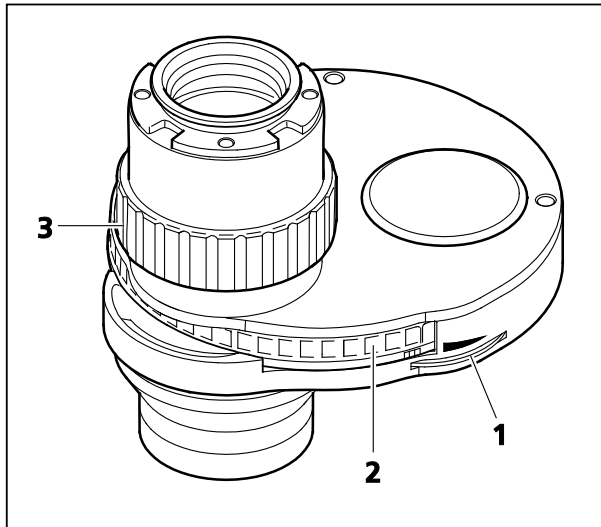

Fig. 2-19 LD Condenser 0.55 for
- Condenser with an adjustable aperture diaphragm (Fig. 2-19/1) for the bright field position (position 1 of the modulator disk; the aperture diaphragm is completely open for all the other positions of the modulator disk)
- Five-position modulator disk (Fig. 2-19/2) and height adjustment to focus / adapt illumination (Fig. 2-19/3); height adjustment lift: approx. 9 mm